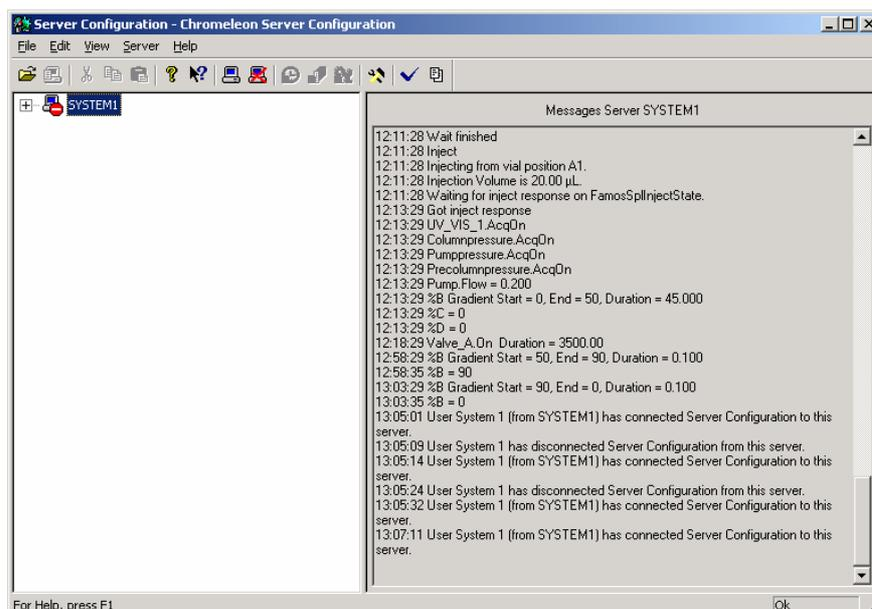

FIGURE 2-14 The Server Configuration Box
- d) Click either on the Server Configuration icon (if copied to your desktop) or start the Server Configuration via the **Start** menu, to present the *Server Configuration* box (FIGURE 2-14).